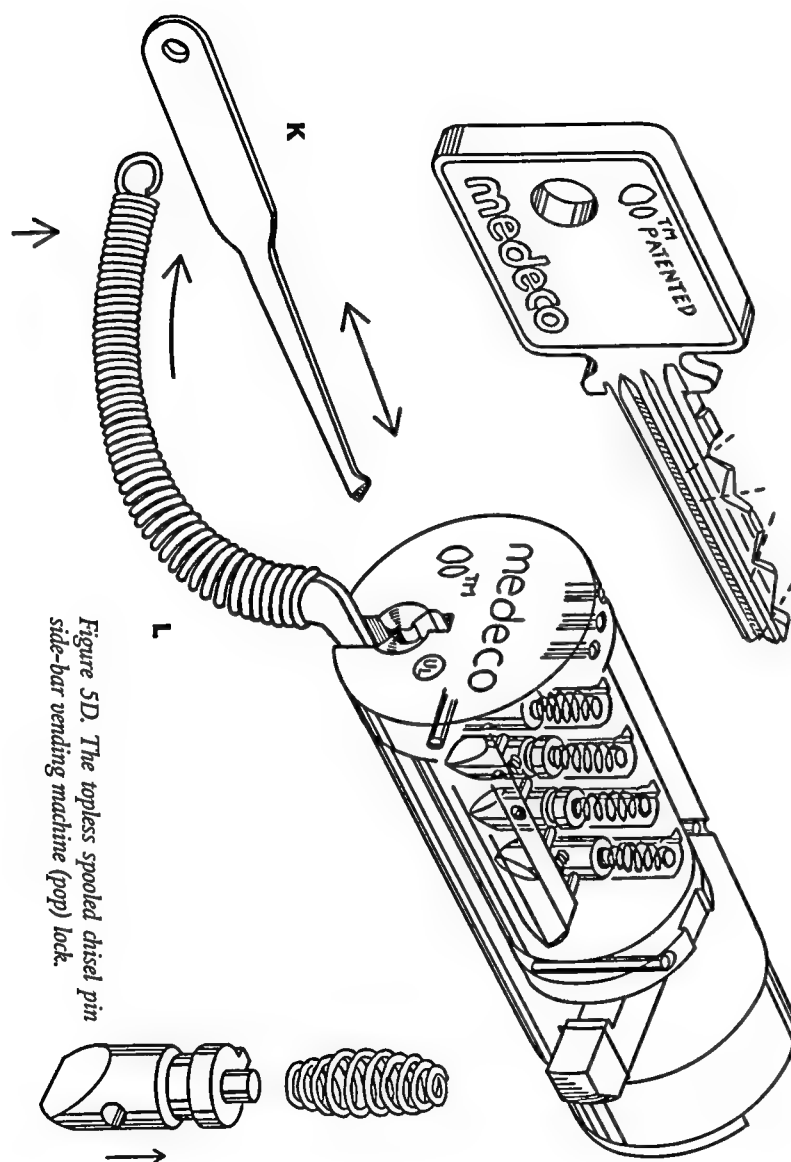

Figure 5D. The topless spooled chisel pin side-bar winding machine (pop) lock.
4. *Secrets of Lock Picking*, Paladin Press, p. 9, figure 5D. Further research on my part has revealed that this tool is no longer available in locksmith's supply chains. Please see Chapter 1 for details in making this tool.